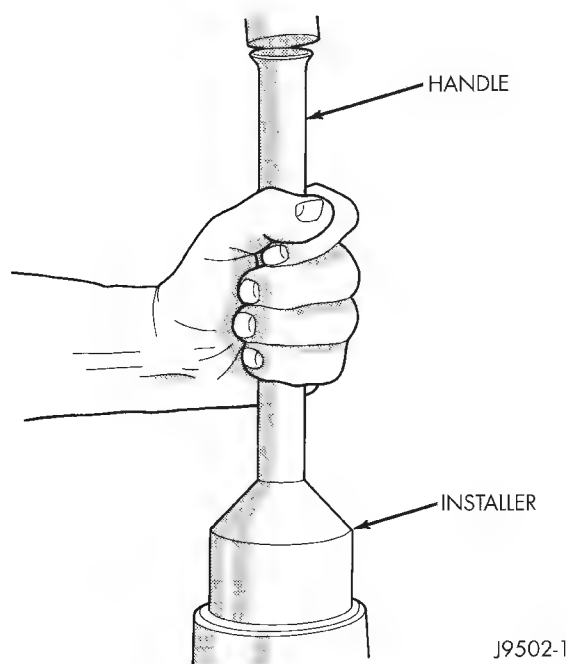
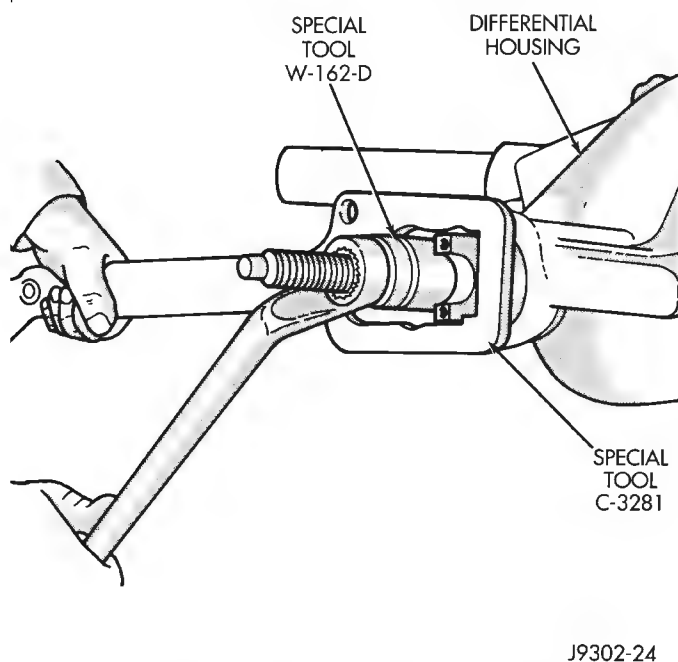

Fig. 51 Pinion Seal Installation
Fig. 52 Pinion Yoke Installation
(4) Assemble preload shims onto pinion shaft.
(5) Install pinion front bearing cone into cup and end yoke thrust washer.
(6) Apply a light coat of gear lubricant on lip of new pinion seal. Install seal with Installer D-163 and Handle C-4171 (Fig. 51).
(7) Install pinion gear into differential housing.
(9) Install yoke with Installer W-162-D and Wrench C-3281 (Fig. 52).